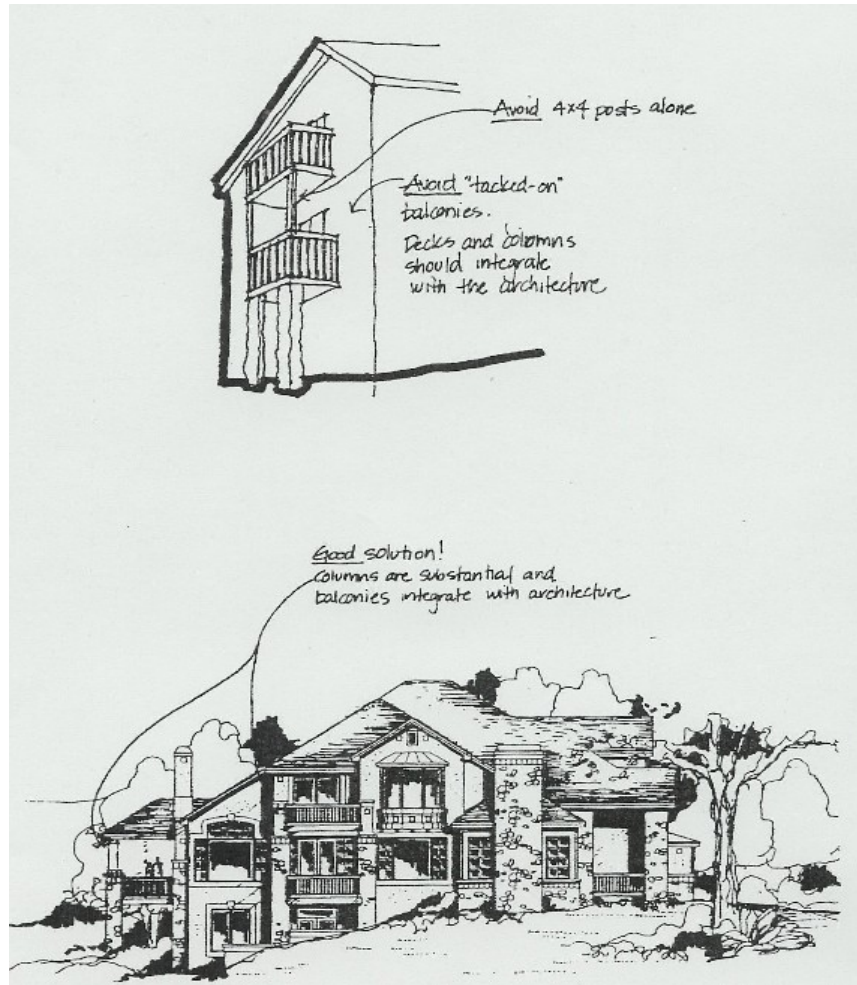

Figure 3 – Treatment of porches, Decks, Balconies
- B. The size of an enclosed porch, patio, deck, or balcony should be compatible to human scale and proportional to the size of its base structure. Front porches are required on 50% of the homes and must be a minimum of (80) eighty square feet with a six foot (6') minimum depth. All homes are required to have a rear or a side patio or deck (minimum 120 square feet).
- C. Porches, patios, decks and balconies should be compatible or integrated with building forms to enhance and compliment architectural character. (See Figure 3).